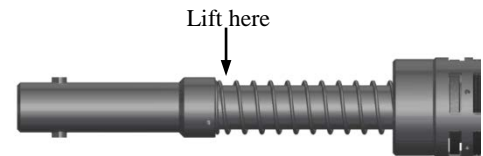

Fig. 2
**CAUTION4:** Lift the AS Retrievable Bridge Plug by placing the sling or chain just below the pulling head. **DO NOT** lift the bridge plug by the upper slip body assembly (Fig. 2).